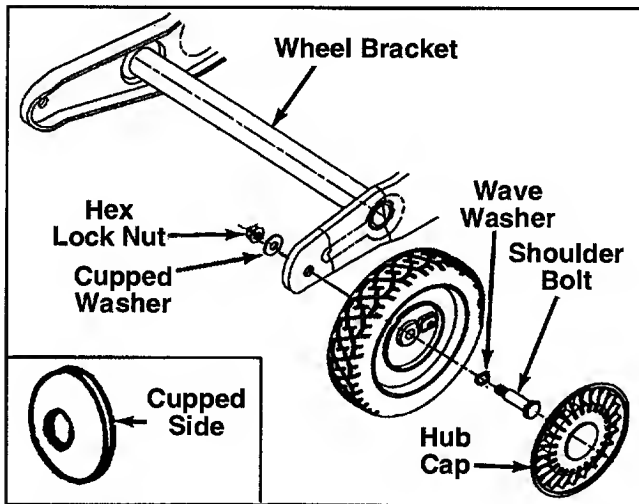

FIGURE 2.
2. Remove the hex lock nuts and shoulder bolts from the front of the wheel brackets. See figure 2.
NOTE: *Cupped side of the washer goes against the chipper chute. See figure 2 to identify cupped side of washer.*